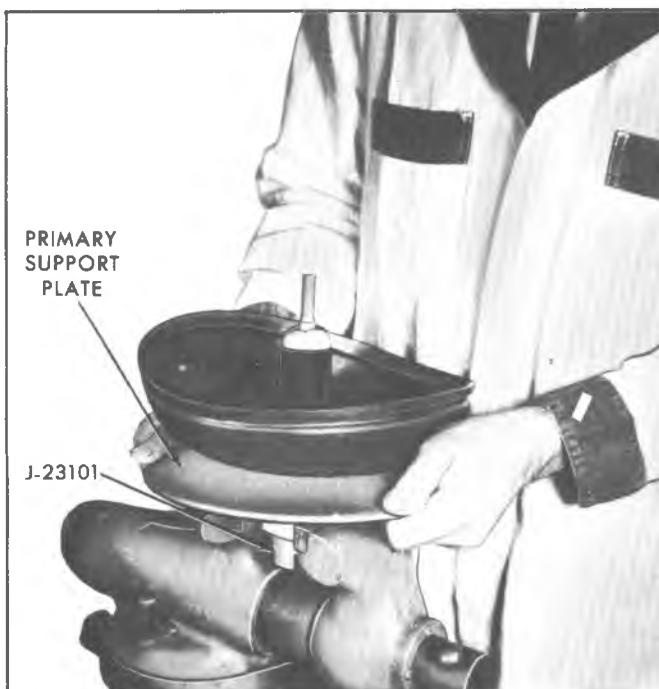

Fig. 10B--Removing Retaining Ring From Air Valve
16. Using Snap Ring Pliers J-4880, remove the retaining ring from the air valve (fig. 10B).
6. Using Snap Ring Pliers J-4880, place the retaining ring into the groove in the air valve (fig. 10B).